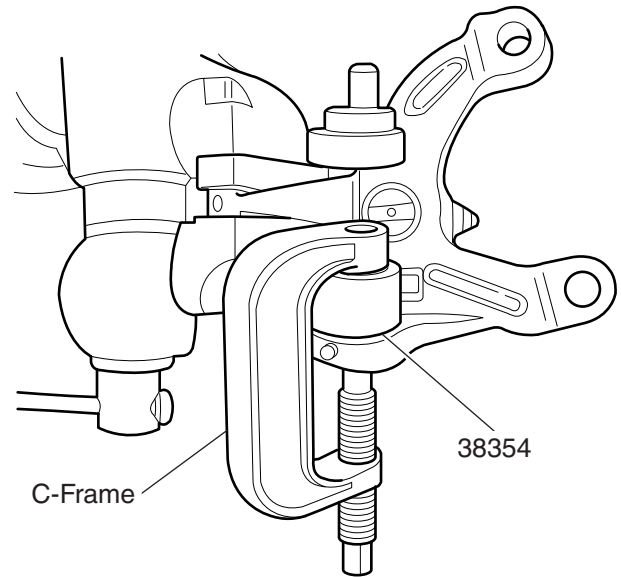

Figure 1. Ball Joint Removal
4. Position the C-Frame as shown in Figure 1.